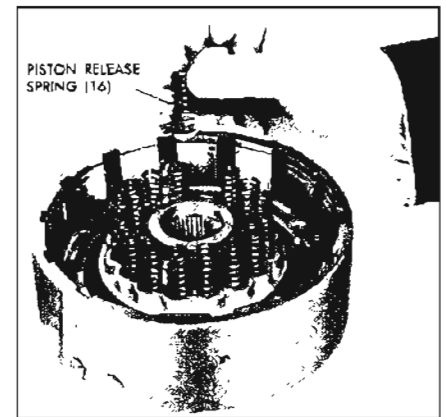

Figure 5-615
4. Install clutch release springs into pockets in piston. See Figure 5-615.